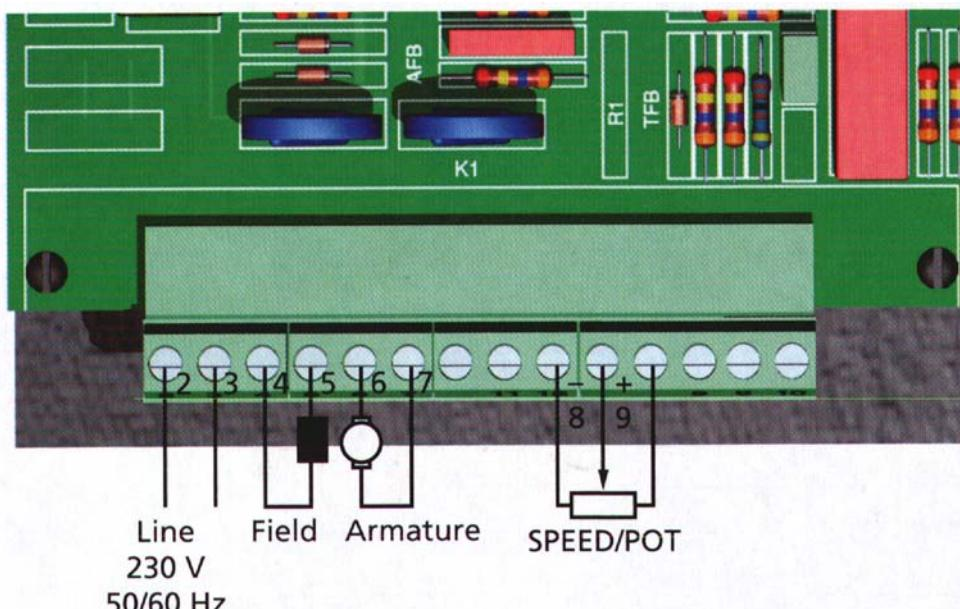

Fig .8.5 Connections for the Is motor.
- Connect up the Is motor, current rectifier and potentiometer as shown in figure 8.5. Use only touch protected laboratory leads.